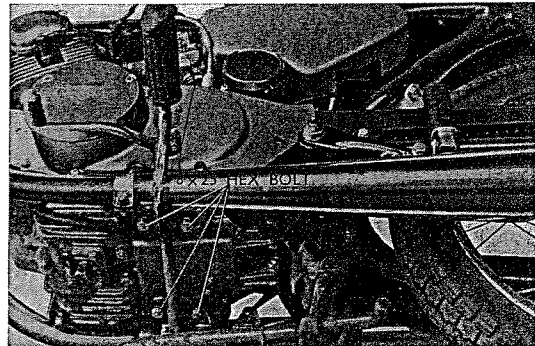

Fig. 4.48 Even tightening of muffler steps
- Evenly tighten the muffler with four 8x25 hex bolts to the underside of the crankcase. (Refer to Fig. 4.48)